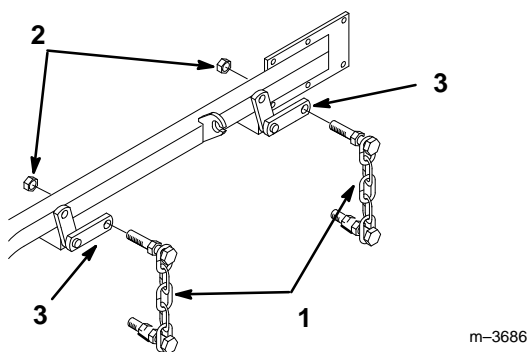

Figure 9
2. Remove one 7/16–14 flange nut from bolt in each chain assembly (Fig. 9).
3. Place bolt of chain into traction unit lift arm slot and secure with previously removed 7/16–14 flange nut (Fig. 9). Tighten flange nut securely.